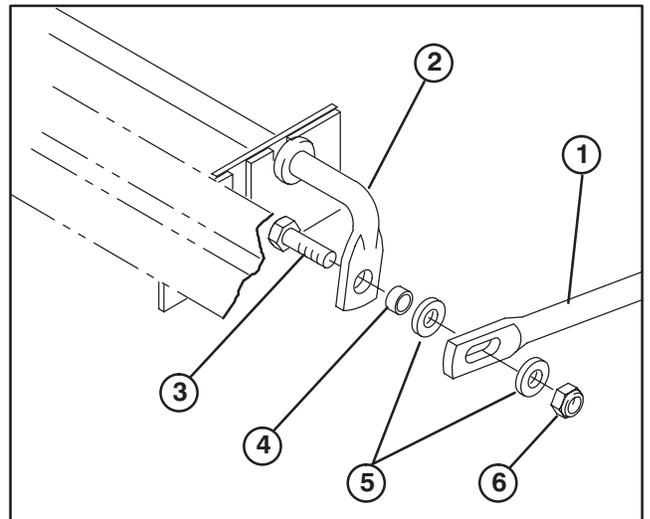

Figure 10
17. Loosely mount connecting rod to rod assembly with a 5/16–18 x 1" lg. capscrew, spacer, (2) flatwashers and a locknut, as shown in figure 10.
B. If lever does not reach the rear position, loosen capscrew securing connecting rod to lever assembly (Fig. 10) and adjust as required.